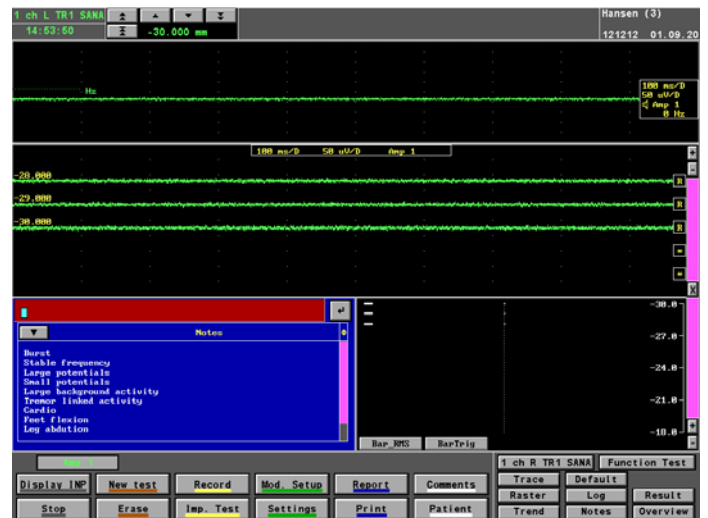

Figure 39 The Test: 1 ch L TR1 SANA
- Select and click on the test you wish to convert. For instance, select and click on test 17 1 ch L TR1 SANA, thus producing the wanted test, see Figure 39 below: